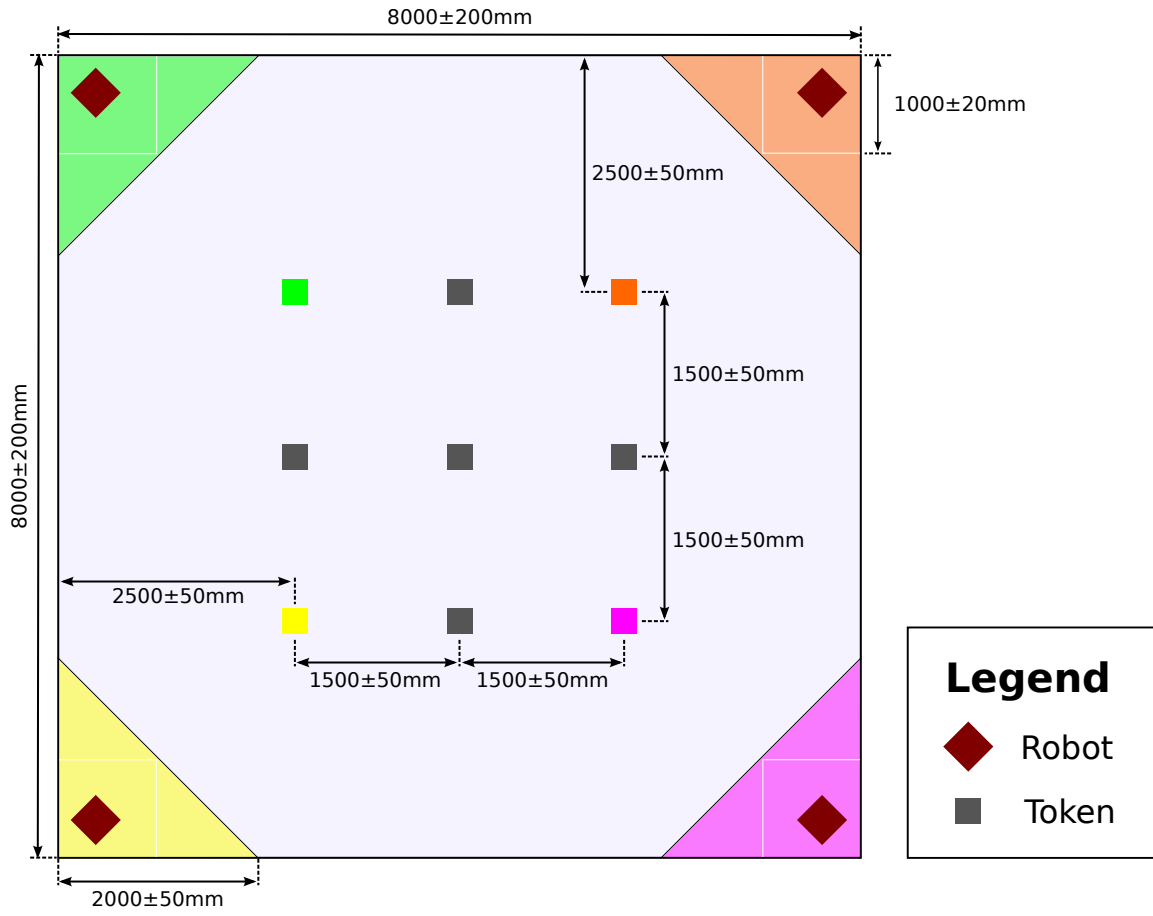

Figure 3: A bird's-eye view of the arena. All dimensions are in millimetres.
- 3.4.1 There are four zones in the arena, one in each of the corners. The arrangement and dimensions of these zones can be seen in figure 3.
- 3.5.5 There will be 9 tokens in the arena, at least one of each net. Their general starting positions can be seen in figure 3. The starting position of tokens of each net are not defined.